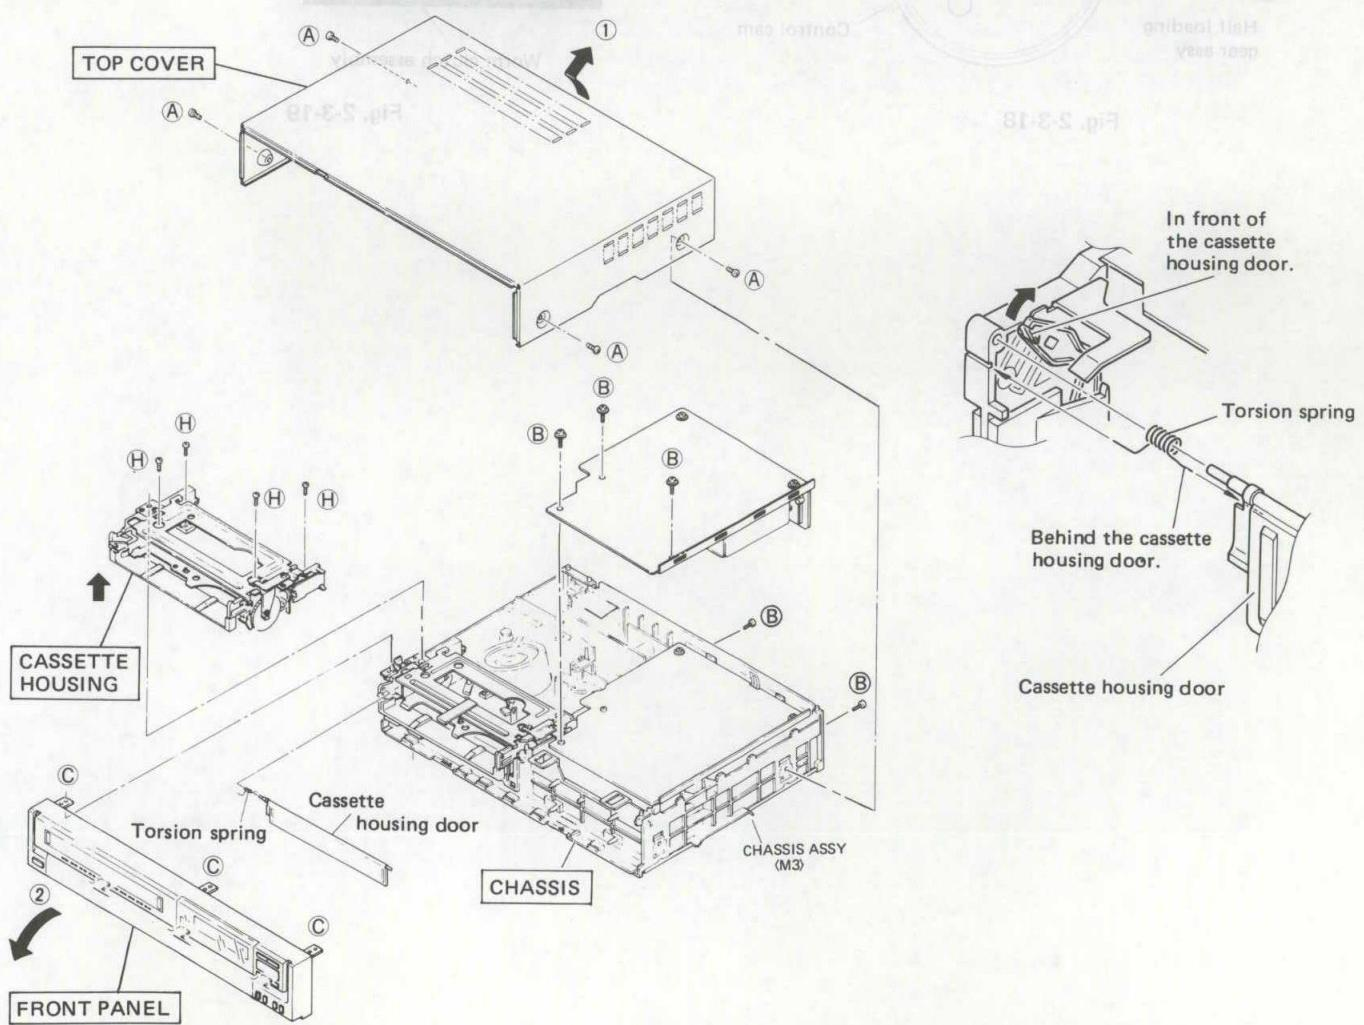

Fig. 2-3-17 Removal of external covers
3. Replacement steps (Refer to Fig. 2-3-17.)